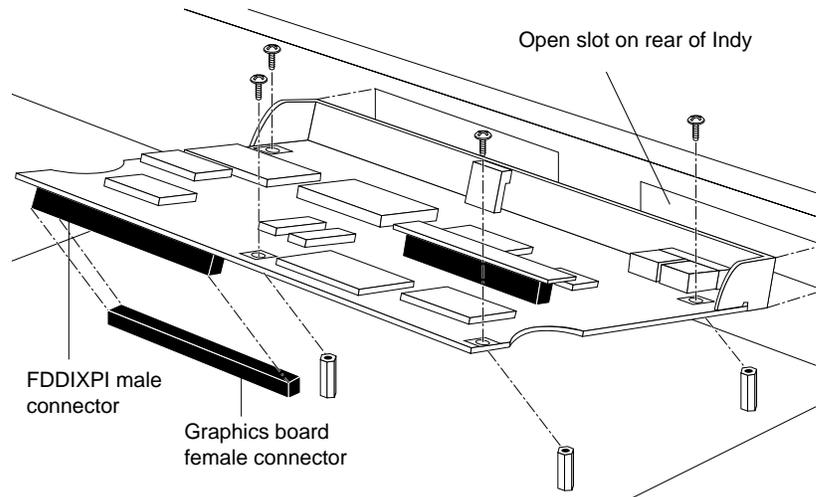

Figure 1-7 Positioning the FDDIXPI board over the graphics board
- Figure 1-7** Positioning the FDDIXPI board over the graphics board 10
5. Position the FDDIXPI board over the graphics board, as shown in Figure 1-7.
- Loosely place the FDDIXPI board on top of the graphics board so that the male connector on the underside of the FDDIXPI board matches the female connector on the graphics board, as shown in Figure 1-7.